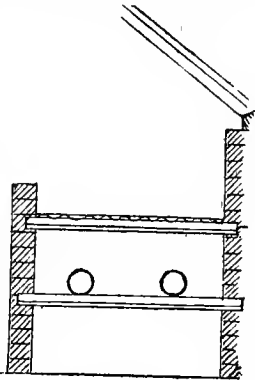

FIG. 69.
**Bottom Heat Beds.**—When these are required, as in forcing and propagating houses, for cucumber growing, etc., the usual and best plan is to place the pipes in a brick pit, with a false bottom consisting of sheets of corrugated iron or something of the kind laid over them, the soil or plunging material being placed on this again, as shown in the accompanying sketch (Fig. 69). A bed constructed of some sheets of this “galvanized” iron laid on cross-bearers 6in. or 8in. above two or three rows of 4in. hot water pipes, in a brick pit about 4ft. wide, and covered with 3in. or
A small hot-bed, sufficient for any ordinary purpose, may be constructed in any greenhouse of the usual type, with raised staging and two or three rows of piping beneath, by enclosing a portion of these with a  $4\frac{1}{2}$ in. brick wall, as shown in Fig. 69. A sheet or two of the corrugated iron must now be laid on suitable bearing bars fixed across a few inches above the pipes, with a layer of cocoanut fibre above it, as before, and with a covering of loose sheets of glass, cuttings of most descriptions of plants may be